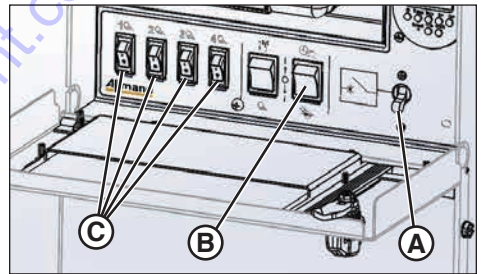

Figure 14
2. Turn the main circuit breaker (A, Figure 14) to the ON position.
4. Turn the Tower / Light switch (B, Figure 14) to the LIGHT position.
5. Turn the individual light switches (C, Figure 14) (1 - 4) to ON (if set to OFF).
Turn the Photocell / Timer switch (B, Figure 14) to the PHOTOCCELL position.